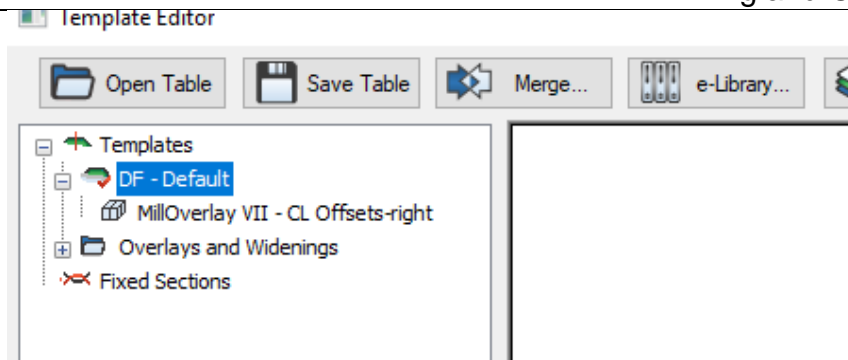

Figure 6 – Default Template with MillOverlay VII on the right side
7. Flip the *MillOverlay VII* object to the right by clicking on it and selecting menu Flip. The DF - Default template should now appear as shown in Figure 6 below.